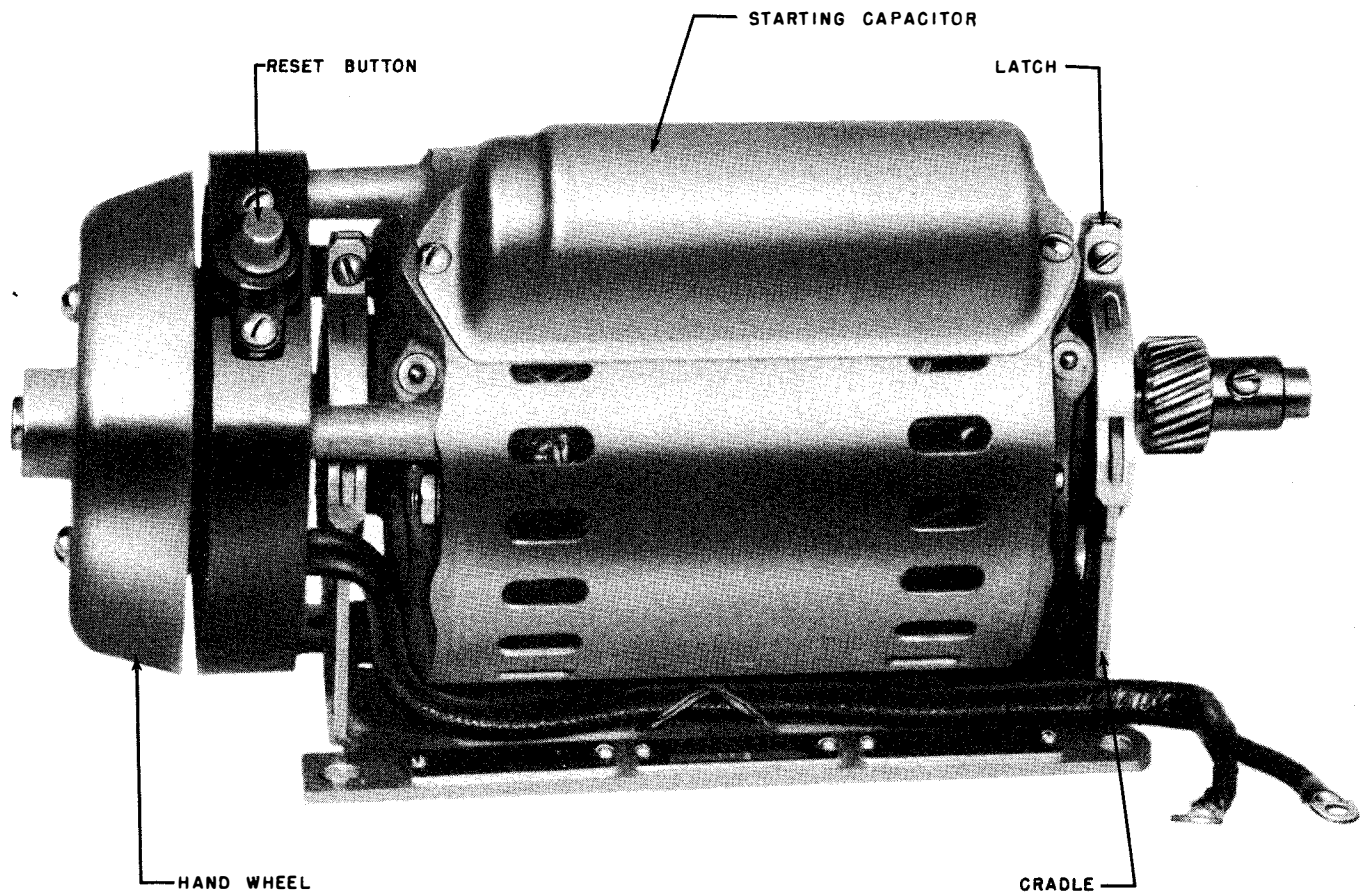

Figure 1-9. AC Motor PD-17/U, Synchronous
(1) AC MOTOR (SYNCHRONOUS) PD-17/U. (See figure 1-9.)